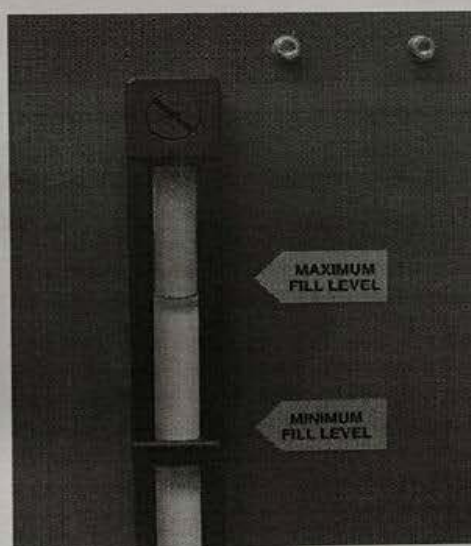

Figure 8 Fill with Water Until You Reach Maximum Fill Level
1. Use an external hose (not provided), to pour clean water into the bench until you see the water level in the sight gauge reach the maximum fill level indicator (see Figure 8).